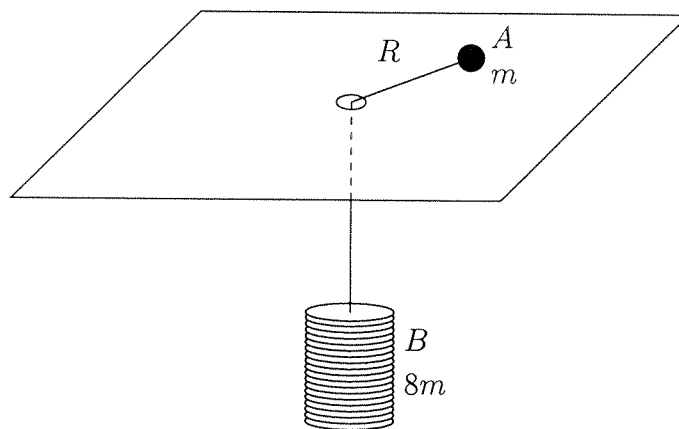

Fig. 6
- (b) Figure 6 shows a frictionless horizontal plane upon which a particle  $A$  of mass  $m$  slides. This mass is connected to a number of discs at  $B$ , of total mass  $8m$ , via a light inextensible string which passes through a small frictionless hole. The discs hanging down at  $B$  move in a vertical line at all times.